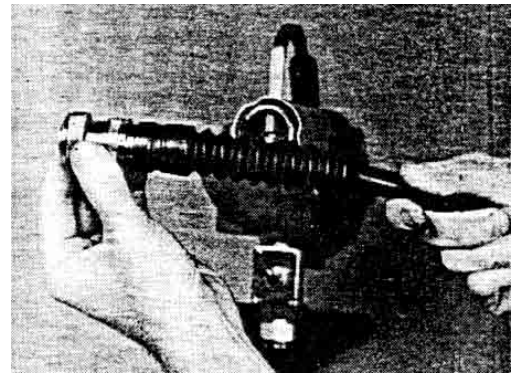
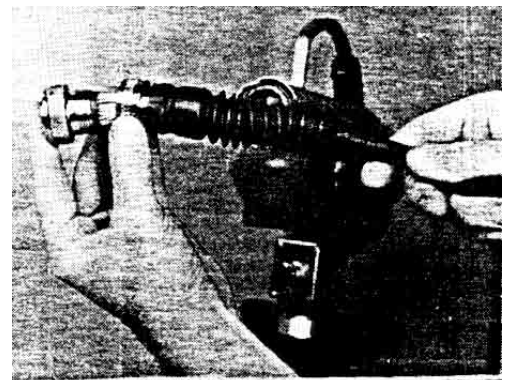

Figure 3. Heating Convoluted Boot
Figure 4. Heating & Retracting Convoluted Boots
a. Heat the convoluted boot (Figure 3) with heat gun until warm to the touch, then pull the loosened adapter away from the connector exposing the wire conductors that are entering the connector. Hold in retracted position until cool and boot remains retracted (Figures 4 and 5).